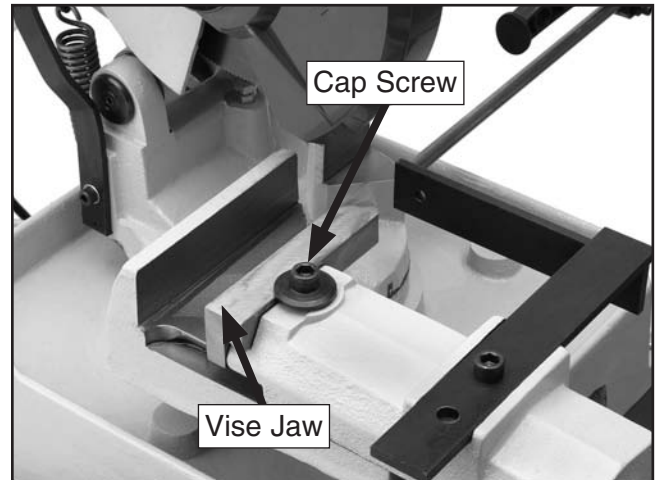

Figure 26. Sliding jaw.
4. Loosen the cap screw until the jaw slides freely (**Figure 26**).